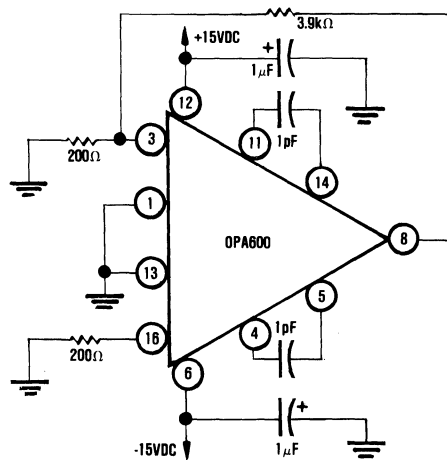

FIGURE 6. Test Circuit Burn-in and Operating Life Test.
- (1) Test condition B
- (2) Test circuit is Figure 6 herein
- (3) $T_A = +125^\circ\text{C}$ minimum
- (4) Test duration is 160 hours minimum
- (3) $T_A = 125^\circ\text{C}$ minimum
- (4) Test duration is 1000 hours minimum